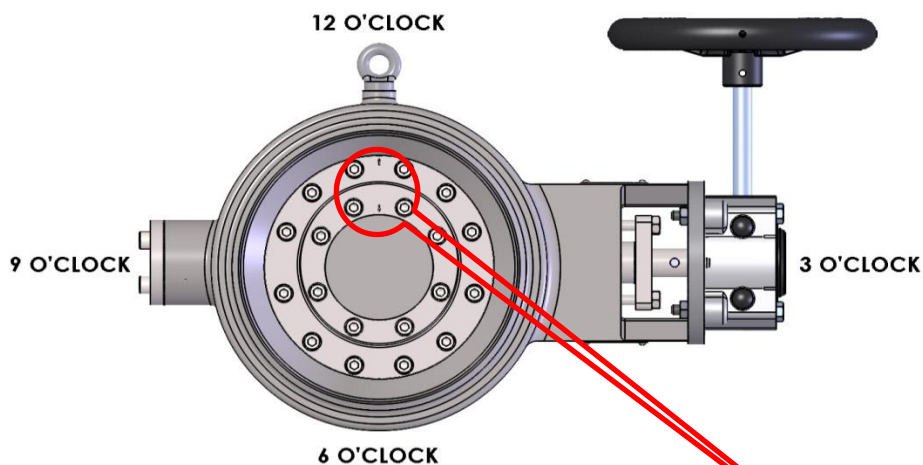

Fig. 8
The Tomoe Tritec valve features a field replaceable body seat (Item 3) and disc seal (Item 6). The seat and seal can be replaced without specialised tools, and without the need to return the valve to the factory. The components are precision machined and therefore can be replaced independently or as a pair. Due to the valve geometry the components must be fitted with the correct radial alignment. The body seat (Item 3) body seat retaining ring (Item 4), disc seal (Item 6), body (Item 1) and disc (Item 2) all have an alignment arrows in the same position. To aid alignment the components are marked to show the 12 o'clock position (see figs 8 & 8a).
- g. Place one finger on the body seat in the 6 o'clock position as shown. (see figs. 8 & 9)